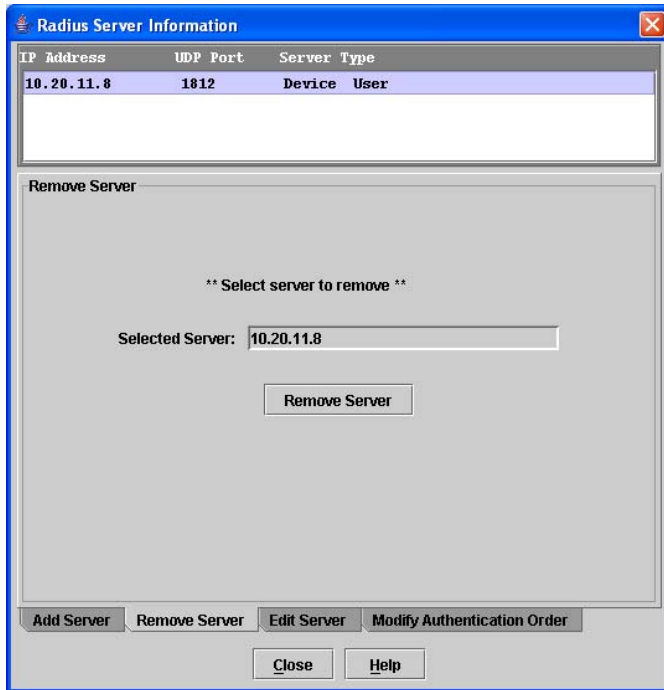

Figure 11 RADIUS Server Information dialog — Remove Server tab page
2. Click the **Remove Server** tab in the Radius Server Information dialog shown in Figure 11.